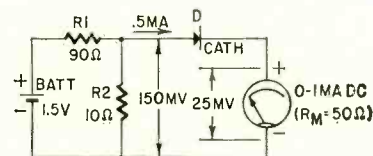

Fig. 2—Tunnel-diode test circuit.
3. Take into account the voltage drop across the current meter when testing a diode. The milliammeter or microammeter used in the test has a definite internal resistance which introduces a voltage drop into the circuit. Thus, in Fig. 2, the output voltage across the 10-ohm leg of the voltage divider ( $R_2$ ) is 150 mv—one-tenth of 1.5 volts—and the observed current is 0.5 ma. However, the diode bias is not 150 mv, because 0.5 ma produces a voltage drop of 25 mv across the 50-ohm milliammeter, but is  $150 - 25 = 125$  mv. Since the internal resistance of the meter is in series with the diode, it can influence the latter's response. Therefore, always use the lowest-resistance current meter obtainable.